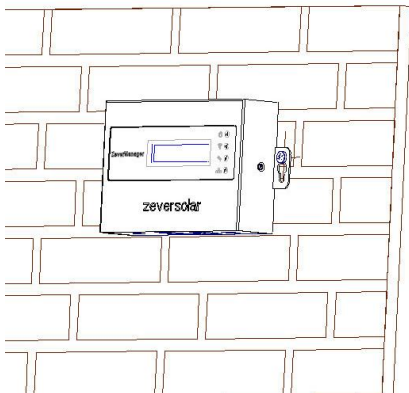

Fig. 4-3: Hang the ZeverManager
Step 3: Hang the ZeverManager on the screw heads by tilting it slightly as shown in Fig. 4-3.